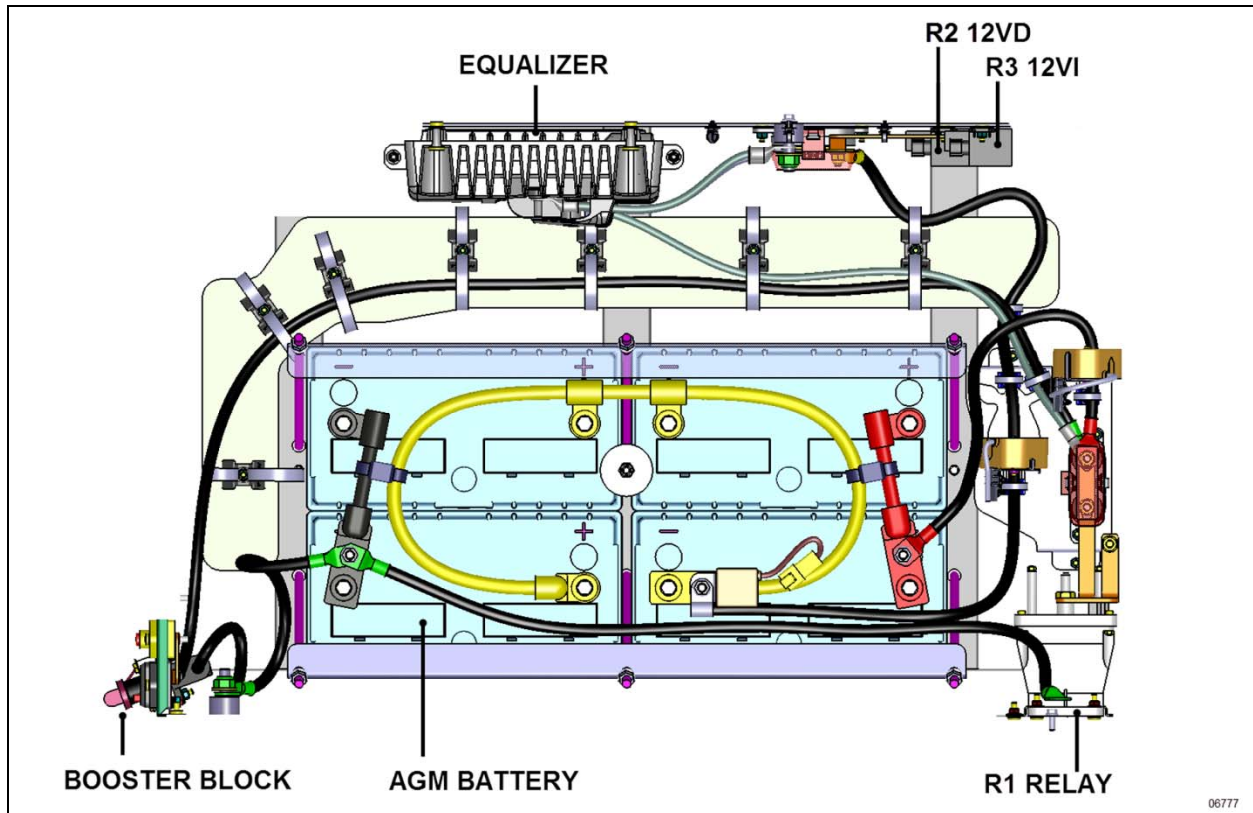

FIGURE 15: BATTERY COMPARTMENT OVERVIEW
This vehicle is provided with four (4) odyssey group 31 absorbed glass mat (agm) 12-volt batteries, model 31-pc2150s, connected in series-parallel (Figure 15).
24VD battery cable to r1 main battery relay (Figure 15) is still powered after battery master switch is set at the off position.